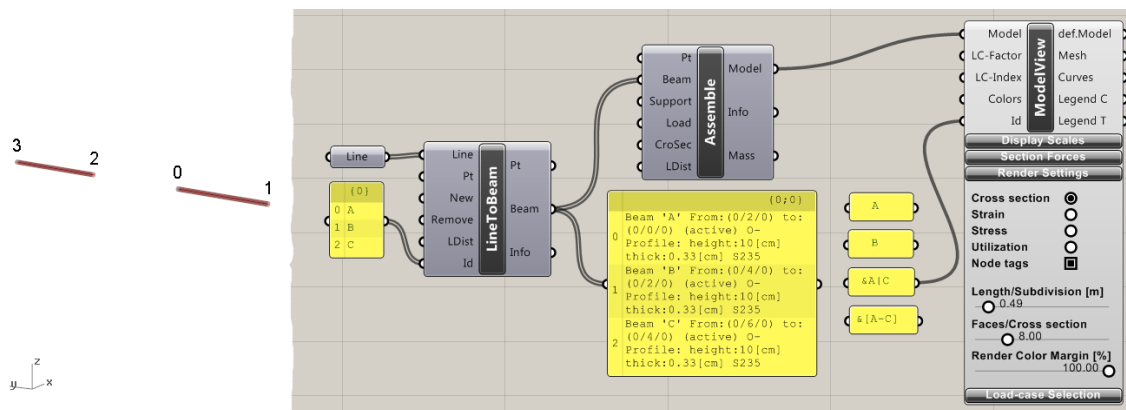

Figure 7: Partial view of a model.
- "Id": This plug lets one select those parts of a model which shall be displayed. It expects a list of strings. The default value is an empty string which means that all of the model shall be visible. As one can see in fig. 7 it is possible to input regular expressions. These must start with the character "&" and adhere to the conventions of regular expressions as defined for C#. The identifier of each beam of the model is compared to each item of the given string list. In case a list entry matches the beam identifier the beam will be displayed. Fig. 7 contains four examples of "Id" lists: The first would limit visibility to beam "A", the second to beam "B". The third is a regular expression which matches beams "A" or "C". The fourth matches beams "A" to "C".